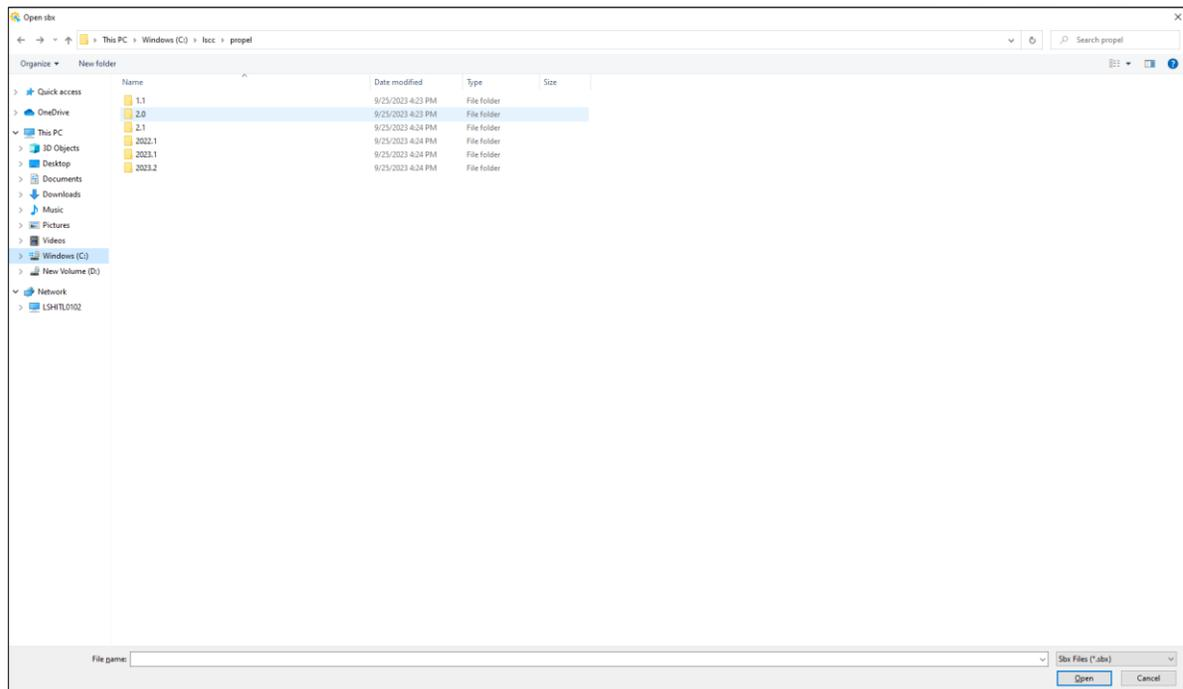

Figure 2.10. Open Sbx Dialog
1. Choose **File** > **Open Design** from Propel Builder GUI Menu or Click **Open Design** icon from Propel Builder Toolbar. The Open sbx dialog opens (Figure 2.10).